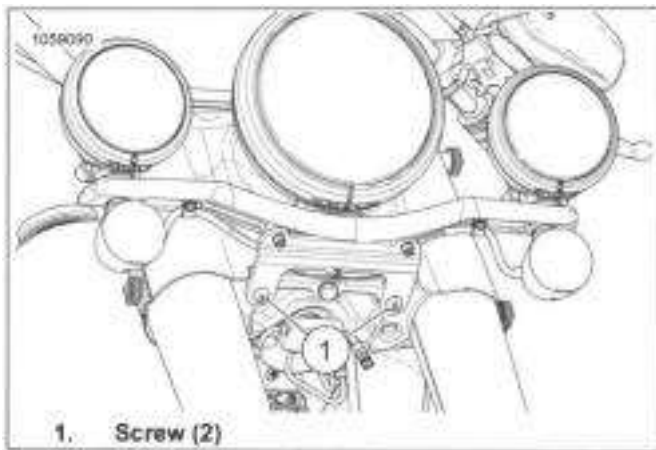

Figure 7-65. Front Light Bar
2. See Figure 7-65. Install screws (1). Tighten.